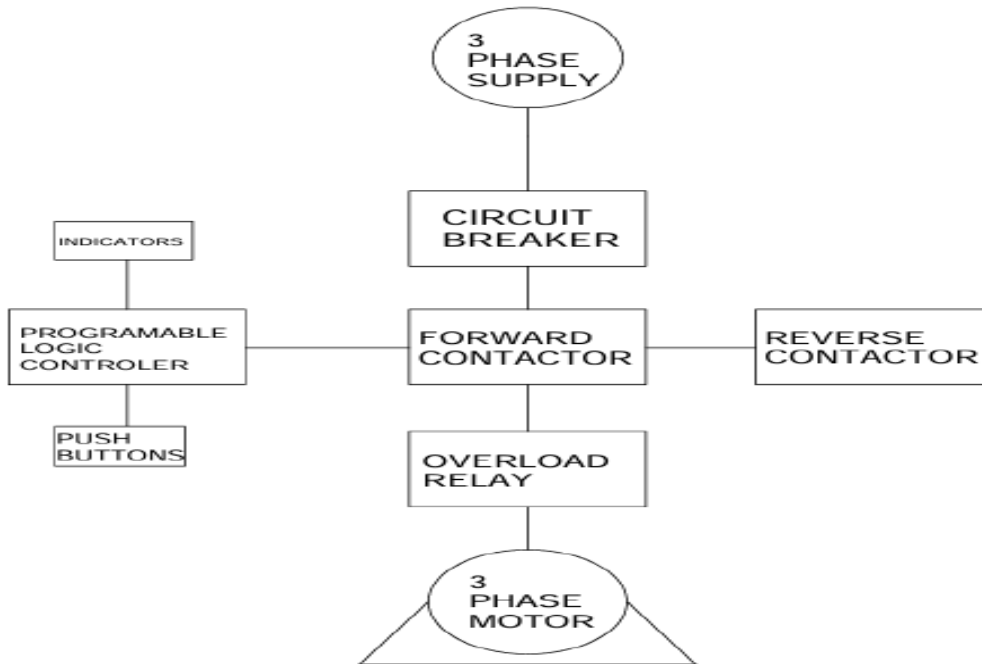

Figure 1
1. **Figure 1** shows a block diagram of a motor control system, Design and implement a **PLC**-based control circuit to operate a bi-directional motor system with the following features.